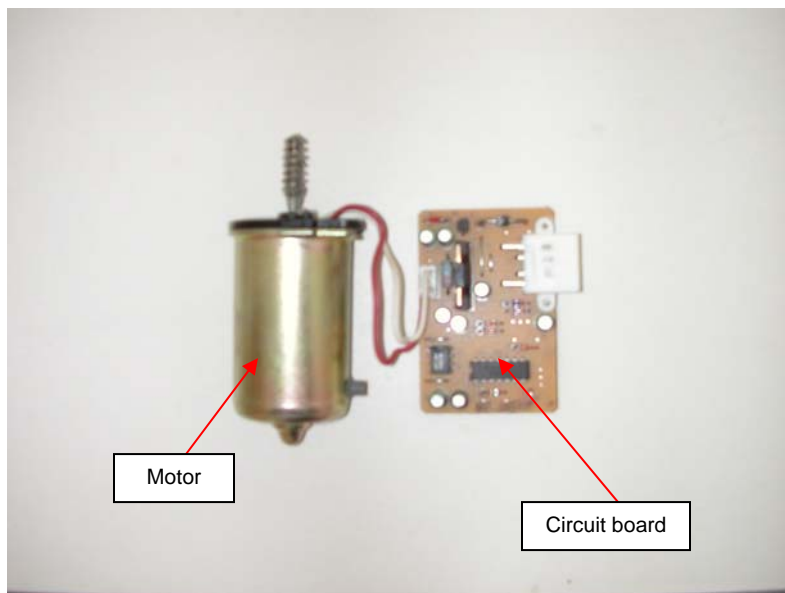

Fig. 8
8. Lift the motor and circuit board from the enclosure (if they are not already out) by raising the white plastic cover at the motor end (Fig. 8).